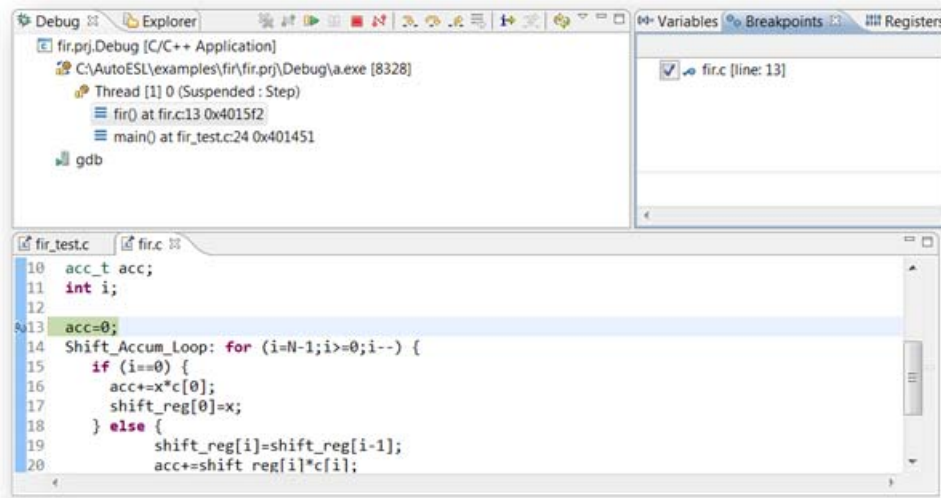

Figure 3-10: Adding a Breakpoint
8. To add a breakpoint, in the left-hand margin of the fir.c tab, double-click on line **13** (small dot as shown in line 13), as shown in Figure 3-10.
9. To confirm the breakpoint has been added, open the Breakpoints tab (see Figure 3-10).